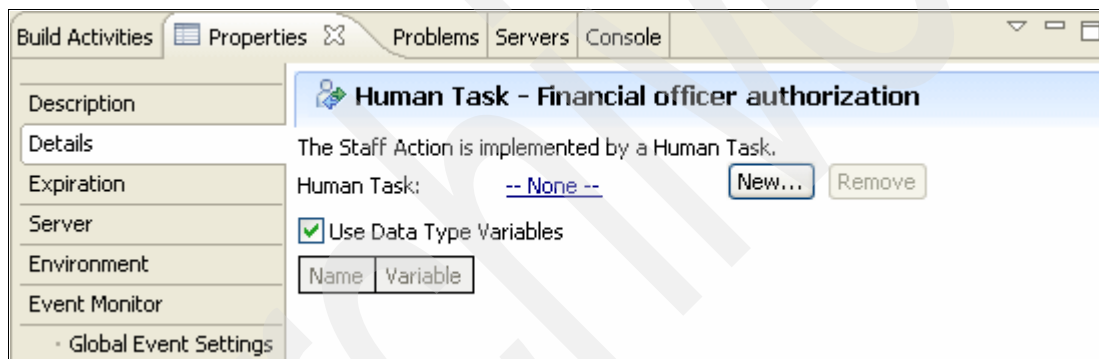

Figure 3-125 Financial officer authorization human task
- b. Go to the Details tab in the Properties view and click **New** as shown in Figure 3-125.